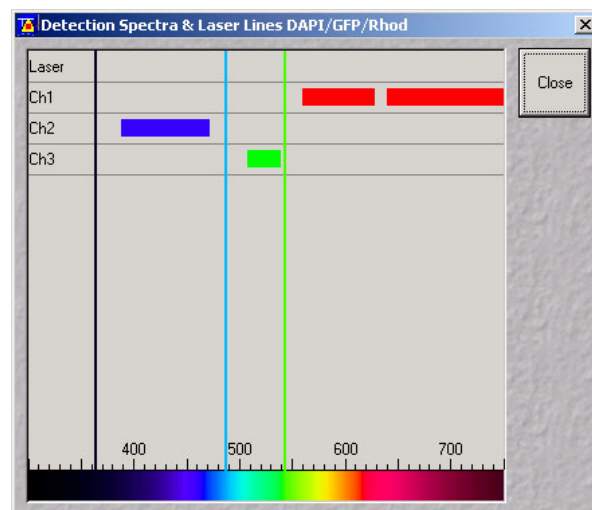

Fig. 13 Detection Spectra & Laser Lines ... window
- Clicking on the **Spectr** button opens the **Detection Spectra & Laser Lines ...** window (Fig. 13) to display the activated laser lines for excitation (colored vertical lines) and channels (colored horizontal bars).